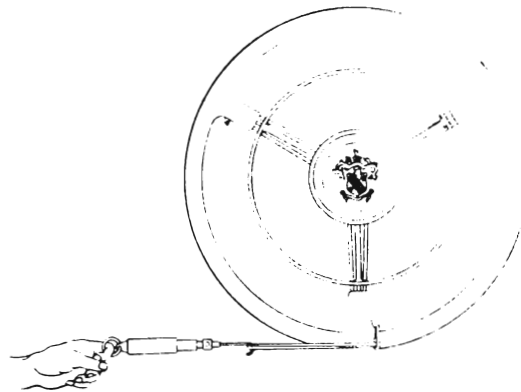

Fig. 9-4. Weighing Steering Adjustment
When this adjustment is completed and the **lock nut** tightened, the load on the **worm bearings** should be between $\frac{7}{8}$ and $1\frac{1}{8}$ lbs., measured at the rim of the steering wheel with a spring scale. See Fig. 9-4. This check must be made with the gear turned to extreme ends just free of the stops.
- (f) Tighten **lock nut** securely. With gear properly adjusted, the load required to turn the gear through center position should be between 2 and $2\frac{1}{4}$ lbs., when measured at steering wheel rim. See Fig. 9-4.